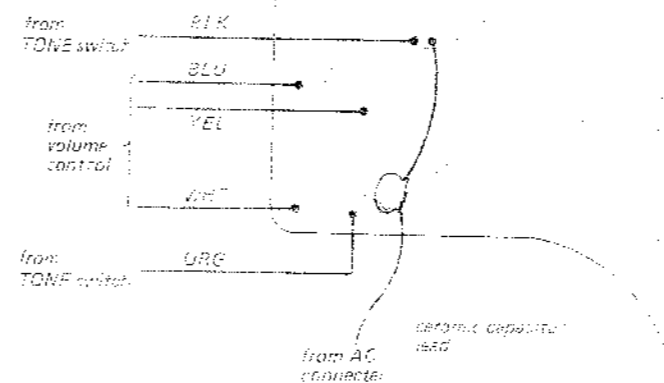

Fig. 5-3 Printed circuit board removal
5. Unsolder three pvc lead wires coming from volume control shown in Fig. 5-3.
6. Unsolder two pvc lead wires coming from TONE switch shown in Fig. 5-3.
7. Unsolder a ceramic capacitor lead coming from AC connector shown in Fig. 5-3.